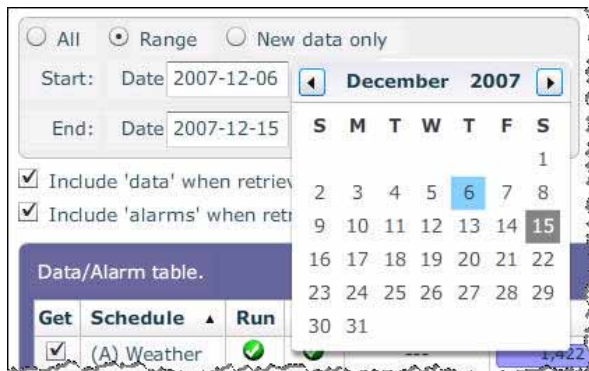

Figure 41: Date Selection Control
- **Range** allows you to specify an explicit date/time range. Clicking on the start or end date fields will display a calendar control, as shown in *Figure 41* below. Use the left and right arrow buttons to select the month, then click on the required day. The currently selected date is highlighted in blue, while today's date is shown in grey. Click outside the calendar control to dismiss it without changing the selected date.